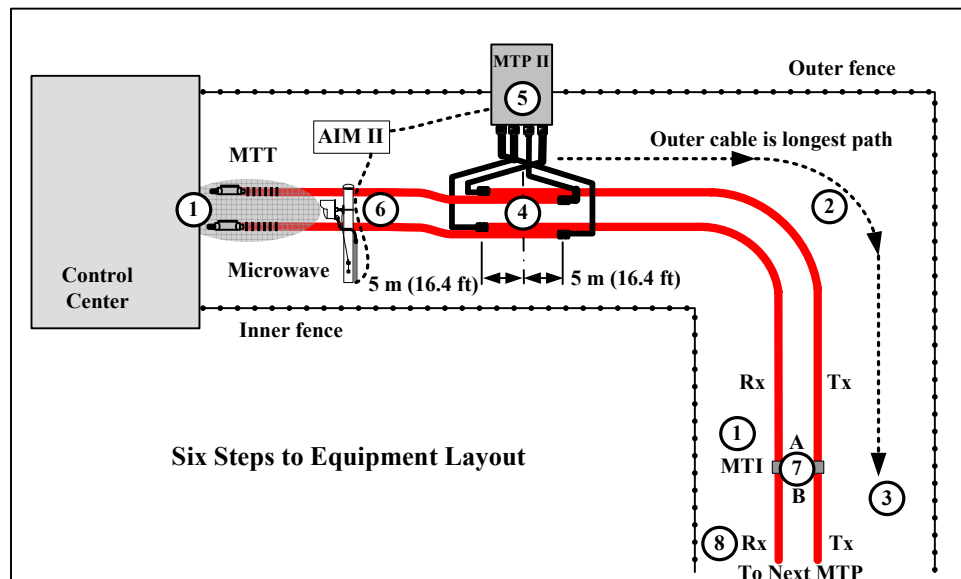

Figure 5.5 - Six Steps to Laying out a MicroTrack™ II System
This section outlines the steps for positioning the MicroTrack Processor II (MTP II), laying out the sensor cable sets, and MicroTrack End of Line Terminations (MTT's) or MicroTrack In Line Terminations (MTI's) along the perimeter. Laying out a MicroTrack II system involves six steps that are outlined below and illustrated on Figure 5.5.
- Outer (or longest) sensor cable. Stake the outer sensor cable start point 5 m (16 ft.) back from the centerline of each MTP II (point #4 in Figure 5.5). Stake the corner points and end points where MTT's or MTI's will be installed. Stake the position of the cable closest to the perimeter fence first. The position of this cable is based on the criteria set out in Sections 5.8, 5.9 and 5.10. To allow for measurement errors and site irregularities do not exceed a 90 m (295 ft.) or 190 m (623 ft.) length depending on whether the 110 m or 210 m sensor cable assemblies will be used.